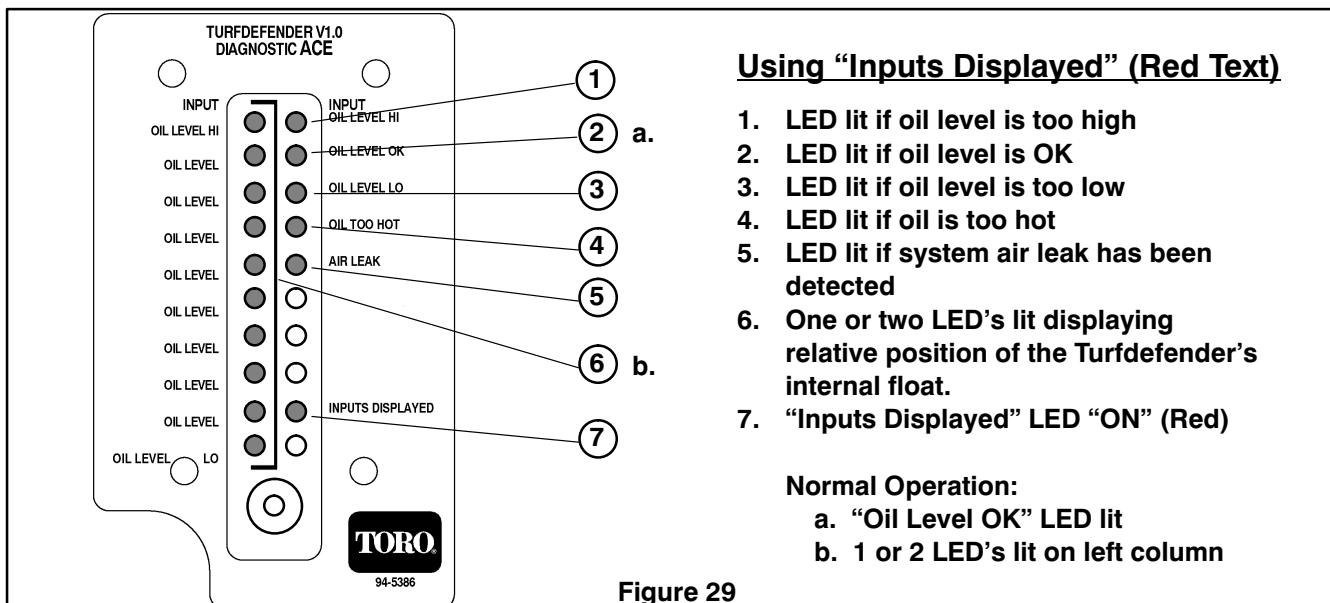

Figure 29
1. When the "Inputs displayed" LED is lit, the actual Float position (1 or 2 LED's on left row) and "Oil level OK" LED – should be displayed (Fig. 29).